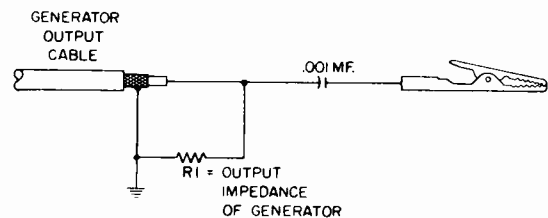

Figure 12 - Generator cable termination.
Generators - Except where otherwise noted, all signal generating equipment should be terminated as shown in Figure 12. Connect the signal cable ground near the ground of the stage where the signal is injected. Adjust the CW generator output so that: (1) When the VTVM is being used its reading remains near the -1 volt point (except in step 2). (2) When the oscilloscope is being used the marker frequencies do not distort the response curve.